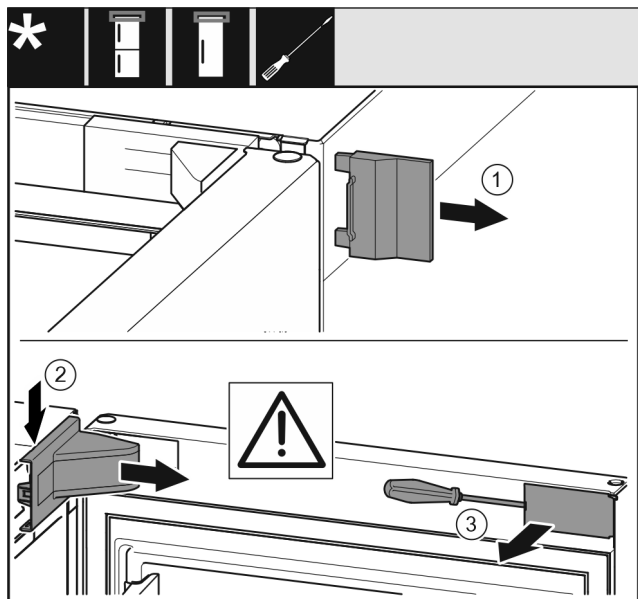

Fig. 12 *
- Remove the outer cover *Fig. 12 (1)**
- Disengage and remove the swap bearing block cover *Fig. 12 (2)**
- Use a slotted screwdriver to unlatch the trim *Fig. 12 (3)* and swing it to the side.*